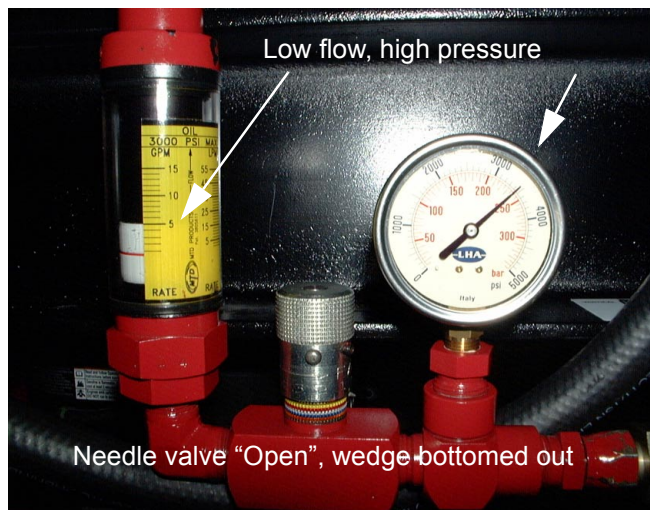

Figure 3
- Record the PSI. \_\_\_\_\_ (This is PSI "B") See Figure 3.